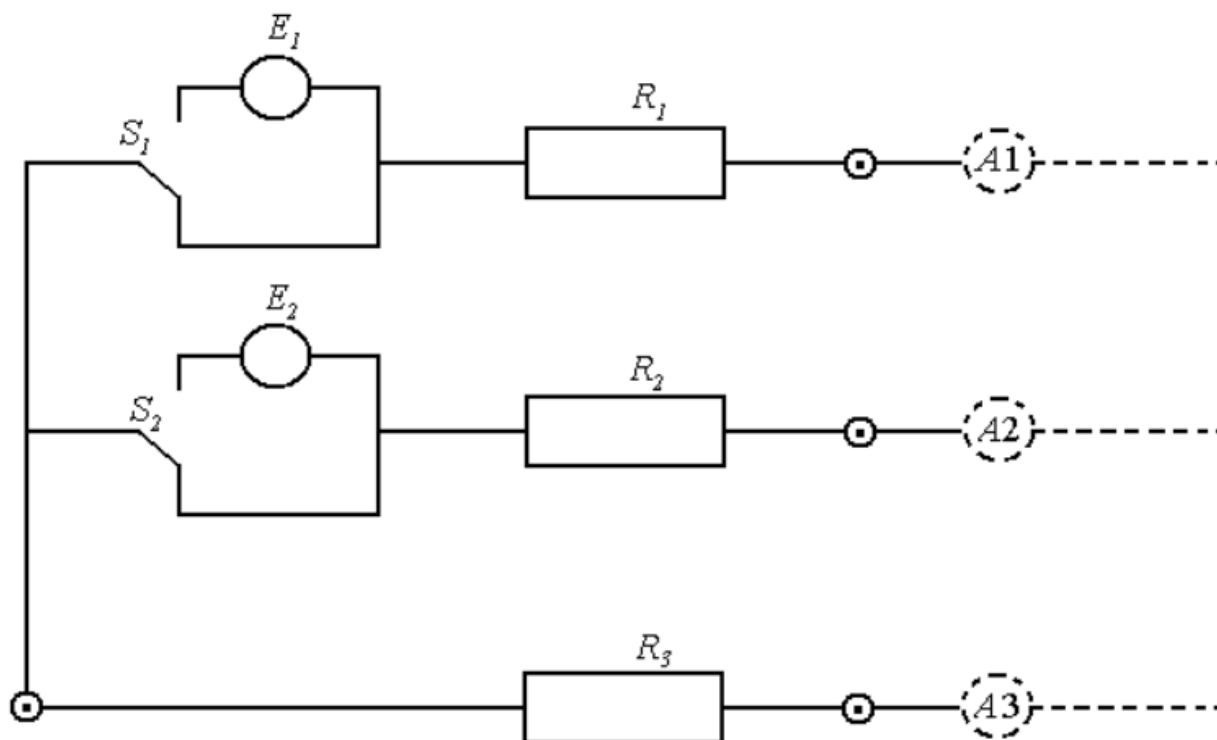

Fig. 2.11 Test panel
Laboratory settings consists of the test panel (fig. 2.11), a panel of power sources, panel of ammeters and voltmeter.
2.2. Set the value of R_3 and measure values R_1 and R_2 with a multimeter. Connect the multimeter clamps to the clamps 0.3, 0.1 and 0.2 correspondingly. Switches S_1 and S_2 should be in lower position (fig. 2.11). Ammeters A_1 - A_3 should be disconnected.
2.3. Shorten the clamps 1,2,3. Switches S_1 and S_2 should be in upper position (fig.2.11). Connect the e.m.f. sources taking into consideration their polarity. Measure the voltage values on the sources clamps with a multimeter.
2.5 Draw the scheme of the circuit (fig. 2.11) without measuring devices and switching elements. Choose arbitrary directions for circuit currents.
The name and purpose of the work. Homework – the calculation of the circuit. The investigated circuit (fig. 2.11). The results of measuring and calculations. Conclusions.